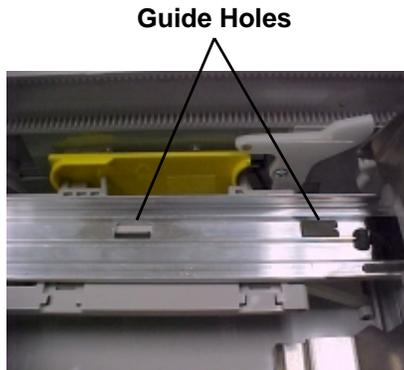

Figure 5
- Note that the left and right guide-rails each possess two note guide-holes, as shown in Figure 5. Each of the note guide holes provides access to an adjustment scale underneath.